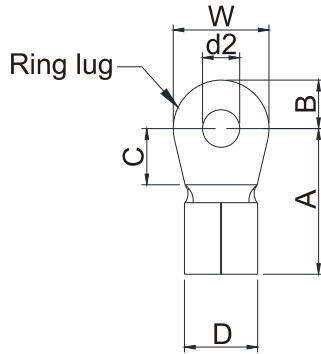
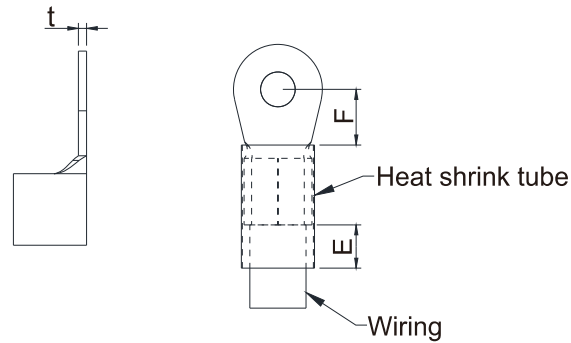

Figure 5-9
Figure 5-10
- Use the specified ring lug for main circuit terminal wiring. See figure 5-9 and figure 5-10 for ring lug specifications. For other types of wiring use the wires that comply with the local regulations.
- After crimping the wire to the ring lug (must be UL approved), UL and CSA approved recognized component (YDPU2), install heat shrink tube rated at a minimum of 600VAC insulation over the live part. Refer to figure 5-10 below.